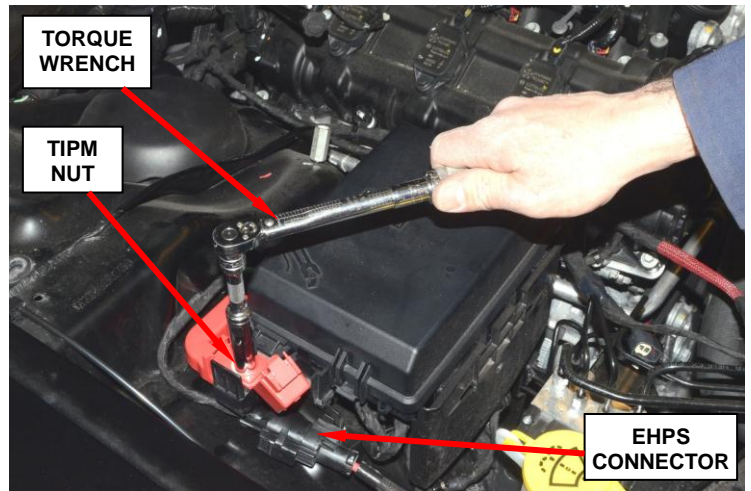

Figure 13 – Tighten TIPM Nut
45. Install the engine battery positive overlay wire harness TIPM B+ overlay terminal nut. Tighten the nut to 106 in. lbs. (12 N·m) (Figure 13).
46. Connect the engine battery positive overlay wire harness EHPS connector to the EHPS body connector (Figure 13).